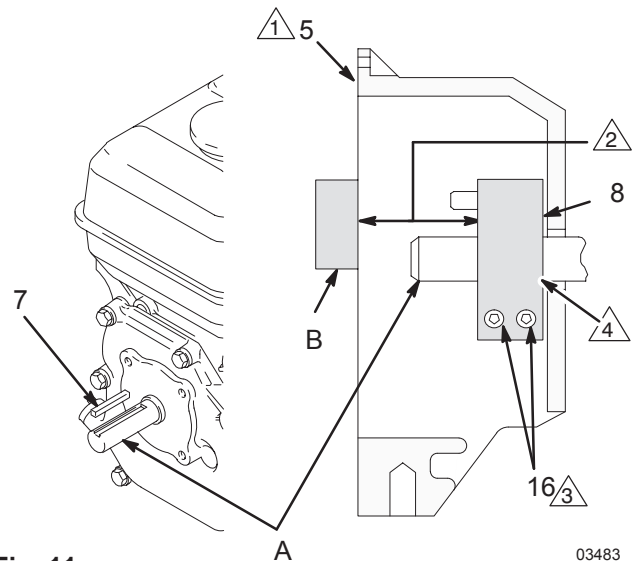

Fig. 11
1. Fig. 11. Loosen two screws (16) on clamp (8),
2. Push screwdriver into slot in clamp (8) and remove clamp.
1. Fig. 11. Install engine shaft key (7).
2. Tap clamp (8) on engine shaft (A) with plastic mallet.
3. Press clamp (8) onto engine shaft (A). Maintain dimension shown note 2 in Fig. 11. Chamfer side must face engine.